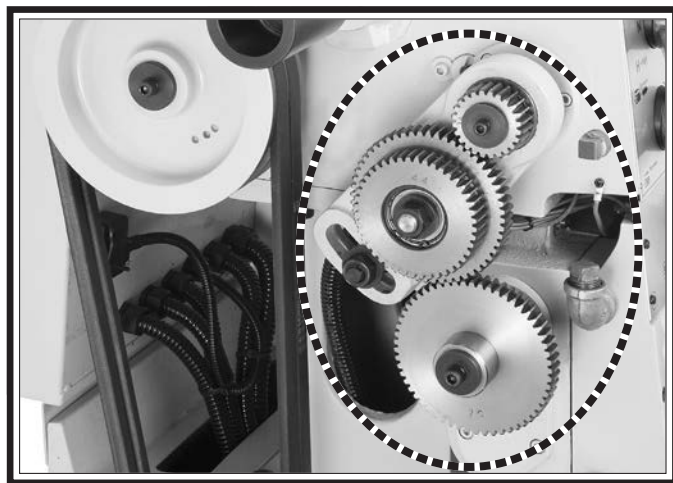

Figure 117. End gears.
The end gears, shown in **Figure 117**, should always have a thin coat of heavy grease to minimize corrosion, noise, and wear. Wipe away excess grease that could be thrown onto the V-belts and reduce optimal power transmission from the motor.
2. Remove the end gear cover and all the end gears shown in **Figure 117**.